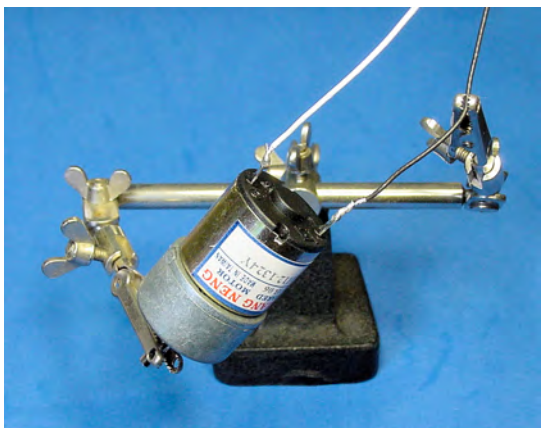

Figure 22-4. Helping hands holding motor and wire in preparation for soldering
7. Place the motor in a helping hand (see Figure 22-4) or vise, so that it doesn't move during soldering.